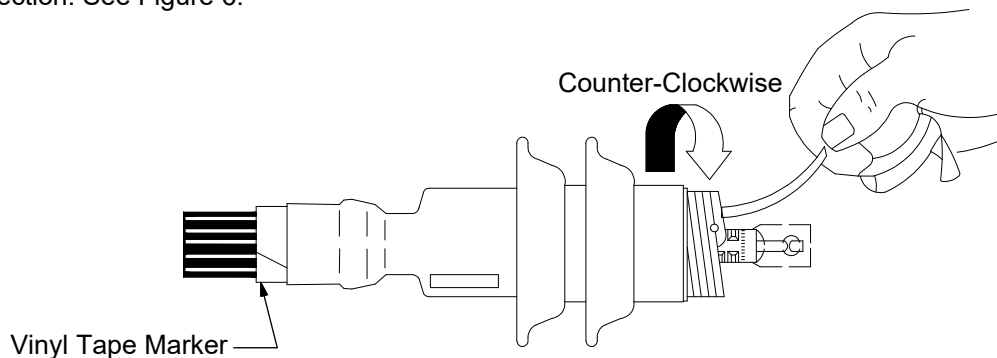

Figure 6
10. Re-position the terminator body on the cable and remove the core. Make sure the terminator body (not the core) is butted up to the edge of the vinyl marker tape. While removing the core, unwind it in a counter-clockwise direction. See Figure 6.